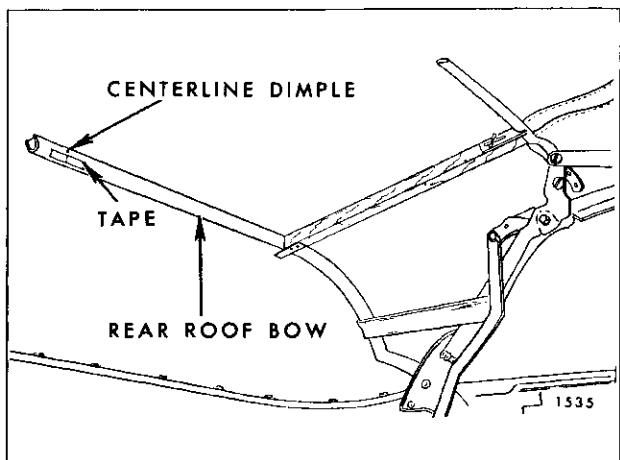

Fig. 13-36—Marking Rear Roof Bow
5. Along forward surface of rear roof bow install a 1" piece of tape at centerline dimple of rear roof bow. Using a pencil, mark centerline of rear bow on tape (Fig. 13-36).
- NOTE:** The deck seam mark will vary slightly ($\pm 1/4"$) depending upon position of rear roof bow. Also check centerline mark on inner lining of top material. Mark should correspond to centerline mark on rear roof bow (Fig. 13-36).